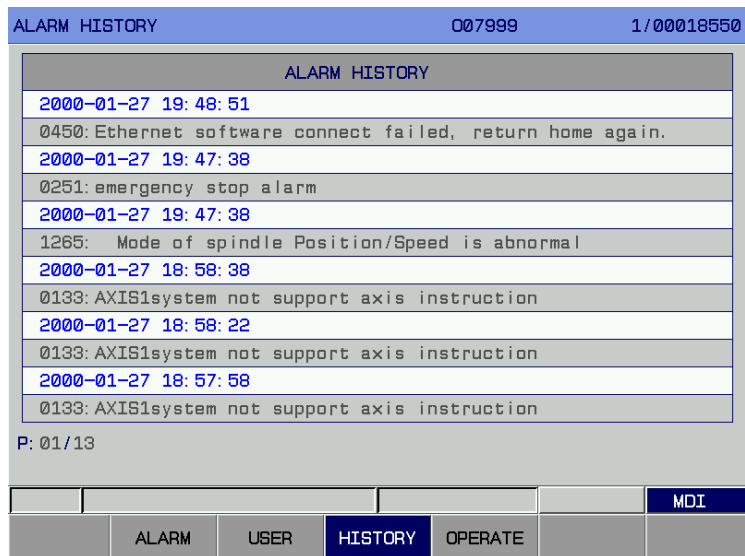

Fig. 3-7-3
3. For the history interface, press [History] in the <Alarm> interface to enter the historical alarm information interface, as shown in **Fig. 3-7-3**.